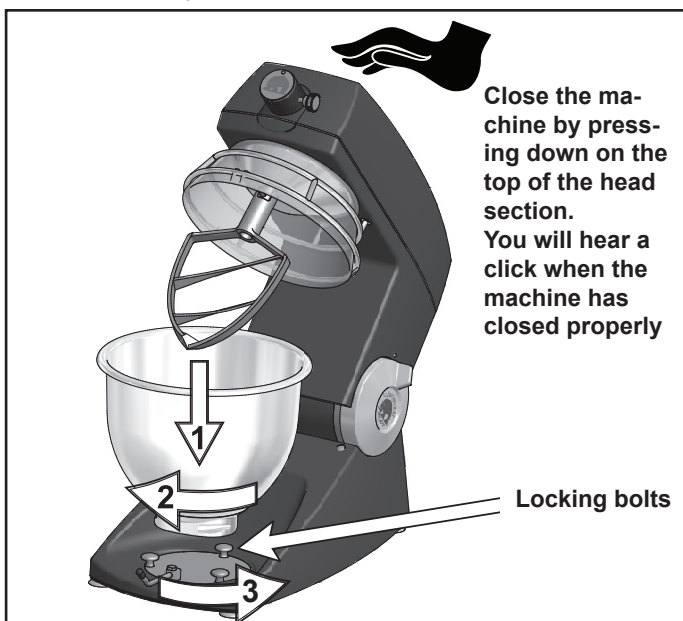

Fig. 5 Place the bowl in the machine and twist it onto the locking bolts and turn the locking arm anticlockwise.
D. Place the bowl between the three locking bolts in the foot of the mixer and turn it clockwise until locked (fig. 5). Turn the locking arm anticlockwise to hold the bowl.